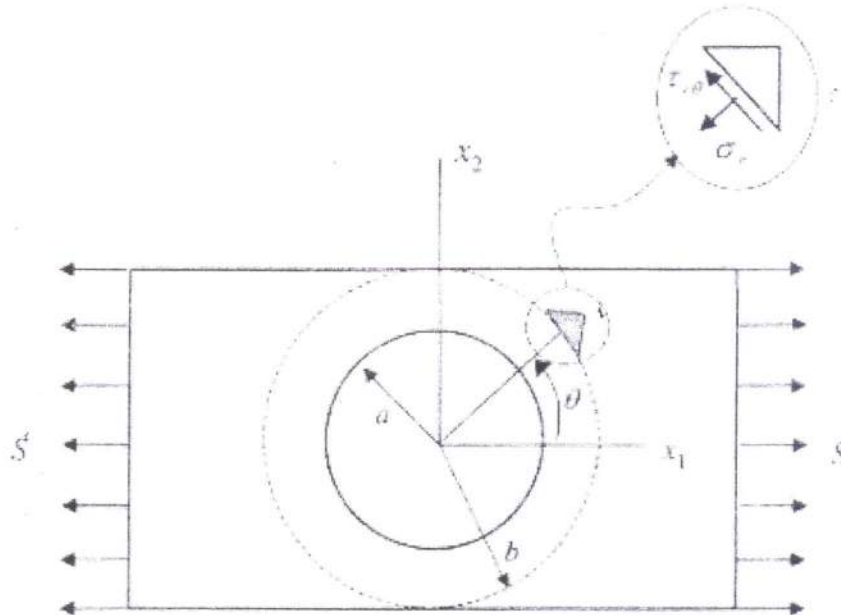

Figure 1
8. Use the stress function  $\phi = (Ar^2 + Br^4 + C/r^2 + D)\cos 2\theta$  to solve the stress problem of a flat plate under a uniform axial stress  $S$ , and having a small circular hole at the origin as shown in figure 1. 10